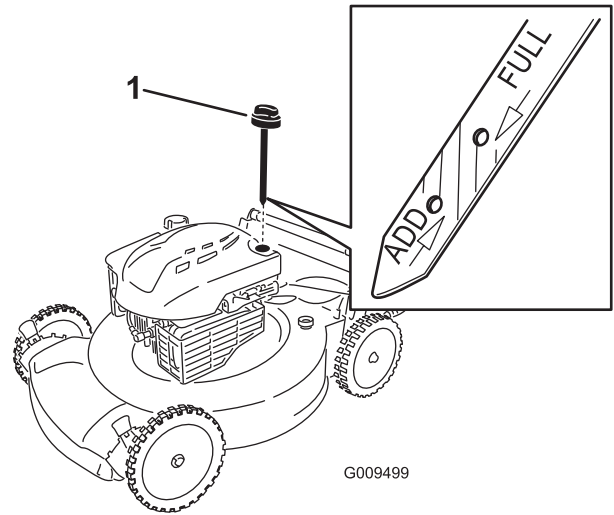

Figure 5
5. Remove the dipstick and read the oil level on the dipstick; refer to Figure 5.
2. Remove the dipstick (Figure 5) and pour about 3/4 of the crankcase capacity of oil into the oil-fill tube.